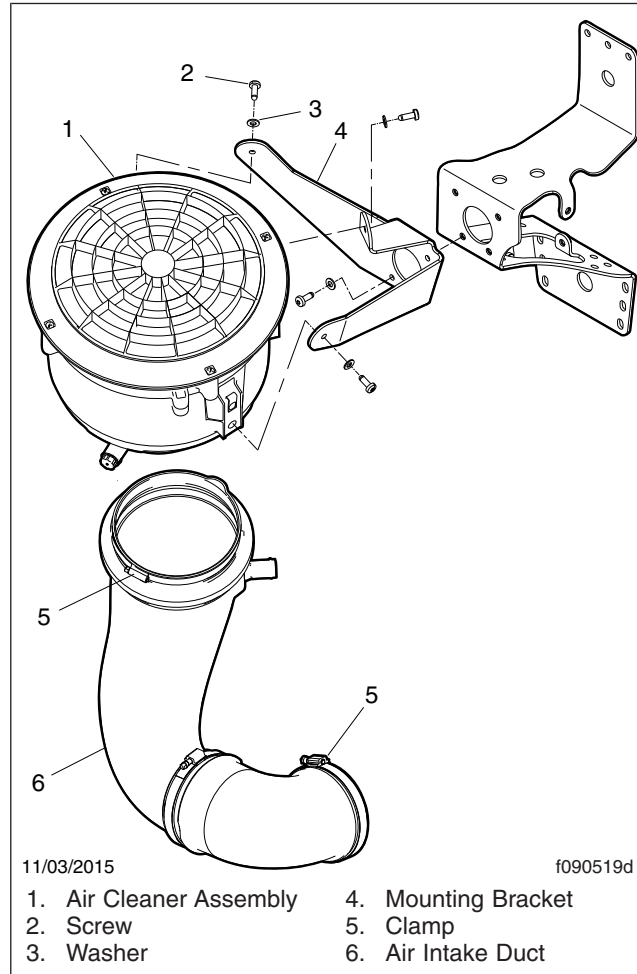

Fig. 3, Air Cleaner Assembly Installation
2. Loosen the clamps at the air cleaner and turbocharger, then remove the air intake duct. See Fig. 3.